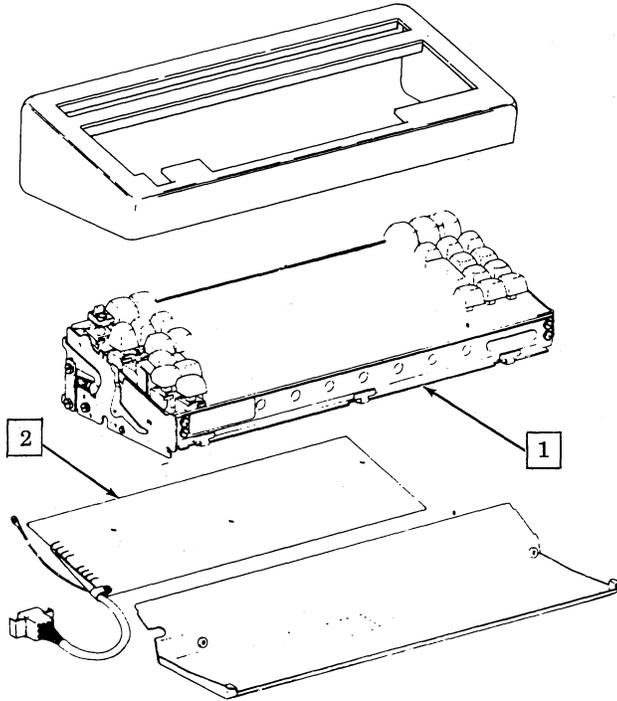

Fig. 3—Early Design 40K101 and 40K104 Opcons
2.01 The major components of the early design 40K101 and 40K104 operator consoles are Console Logic Circuit Card [1] and an Interface and Bell Circuit Card [2]. The two circuit cards are mounted together by locking stand-offs. Electrical connections are obtained through twelve interboard connectors (Fig. 3). The late design 40K101, 40K104/203, and 40K105 operator consoles contain a single card Console Logic Card only.